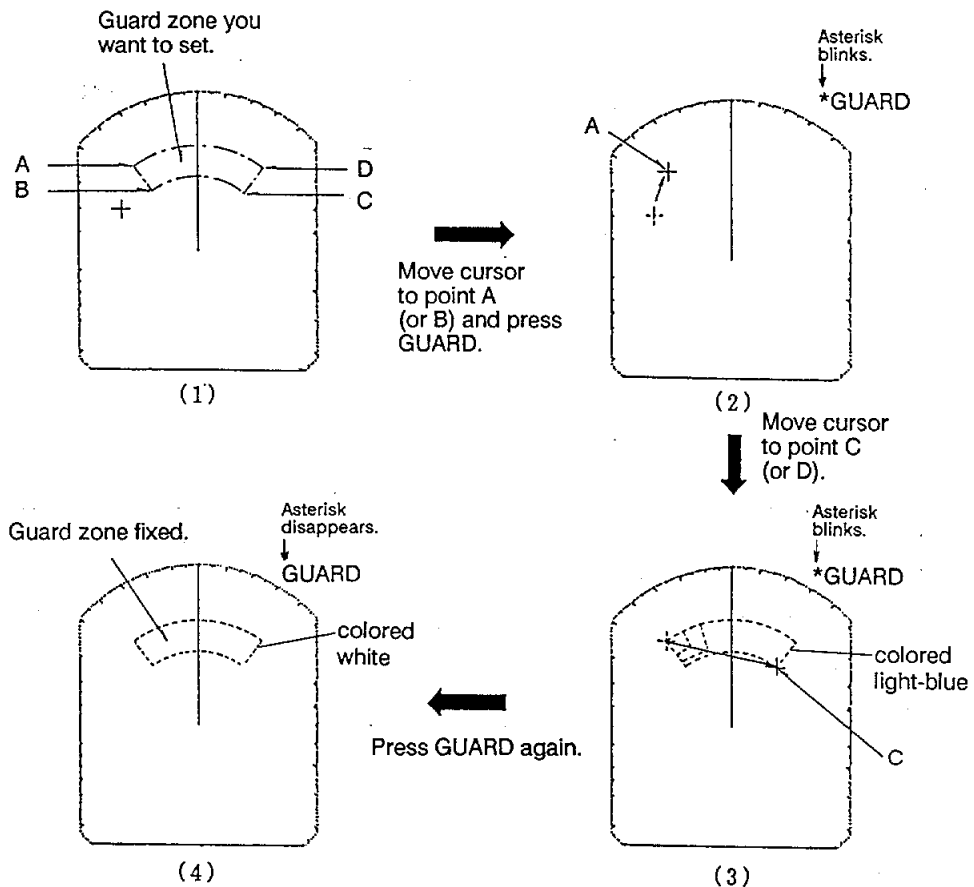

Figure 2-16 Setting Guard Zone
1. Mentally create the guard zone you want to display on-screen. See Figure 2-16 (1).
2. Set the upper (lower) left edge of the guard zone with the cursor. Press the **GUARD** touchpad. The indication "***GUARD**" (asterisk blinking) appears at the upper right-hand side of the screen. (See Figure 2-16 (2).) The asterisk indicates the guard zone is partially set, but the alarm function has been actuated. It disappears once the guard zone is set completely.
3. Moving the trackball clockwise, set the lower (upper) right edge of the guard zone. The guard zone now appears on the display. See Figure 2-16 (3).
4. Press the **GUARD** touchpad again. The asterisk disappears and the color of the guard zone changes to white. See Figure 2-16 (4).